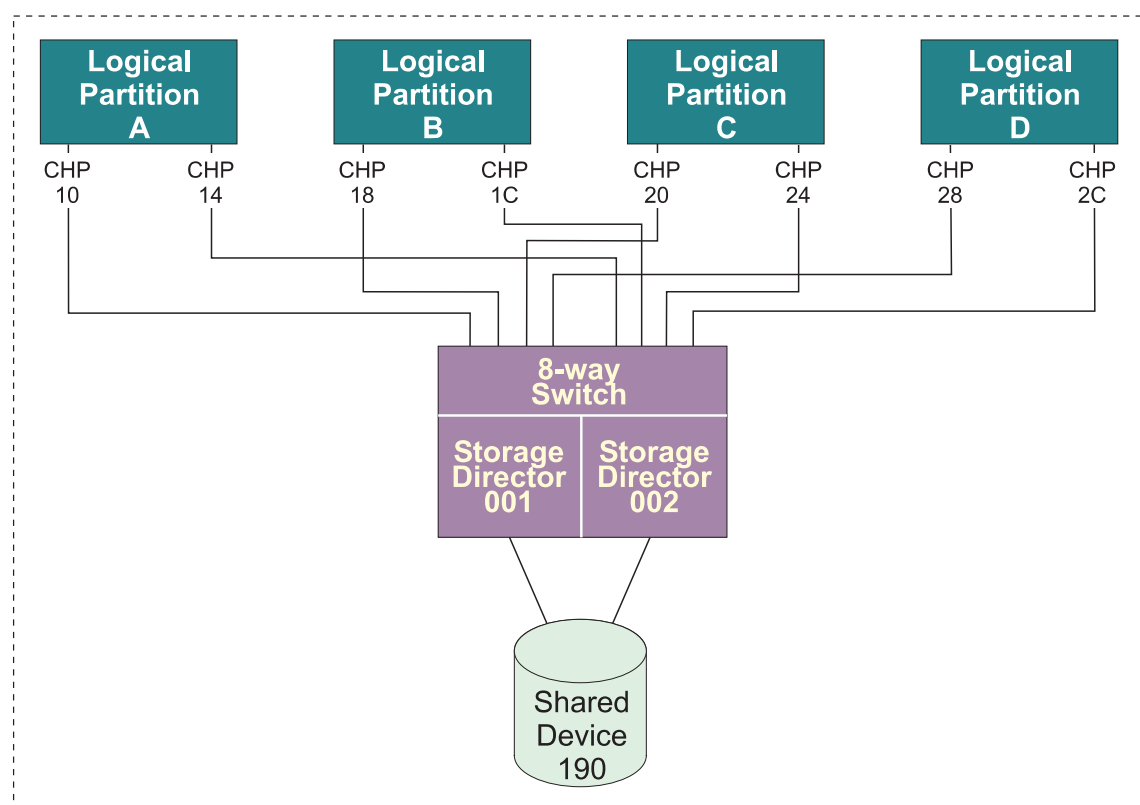

Figure 17. Physical connectivity of shared device 190
*Using channels:* Figure 17 shows an example of an I/O configuration with a device shared by each of the four logical partitions. In this representation of a shared device, each logical partition views device 190 as part of its own I/O configuration. Notice the recoverability characteristics of this configuration: each logical partition has two channel paths to the shared device, each attached to a different storage director.
The following example shows the IOCP statement for Figure 17.